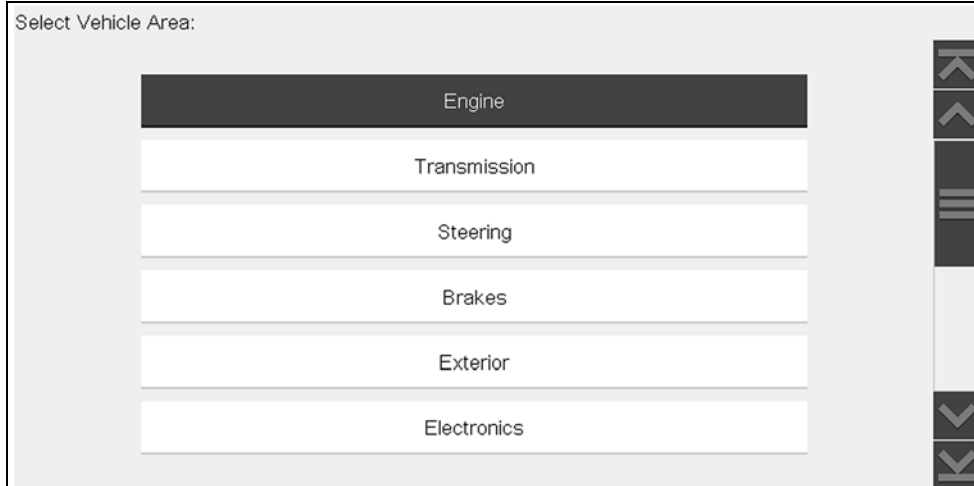

Figure 8-2 Vehicle Area Menu
4. Select a vehicle area, (e.g. **Engine**, **Transmission**, **Brakes**, etc) (Figure 8-2).